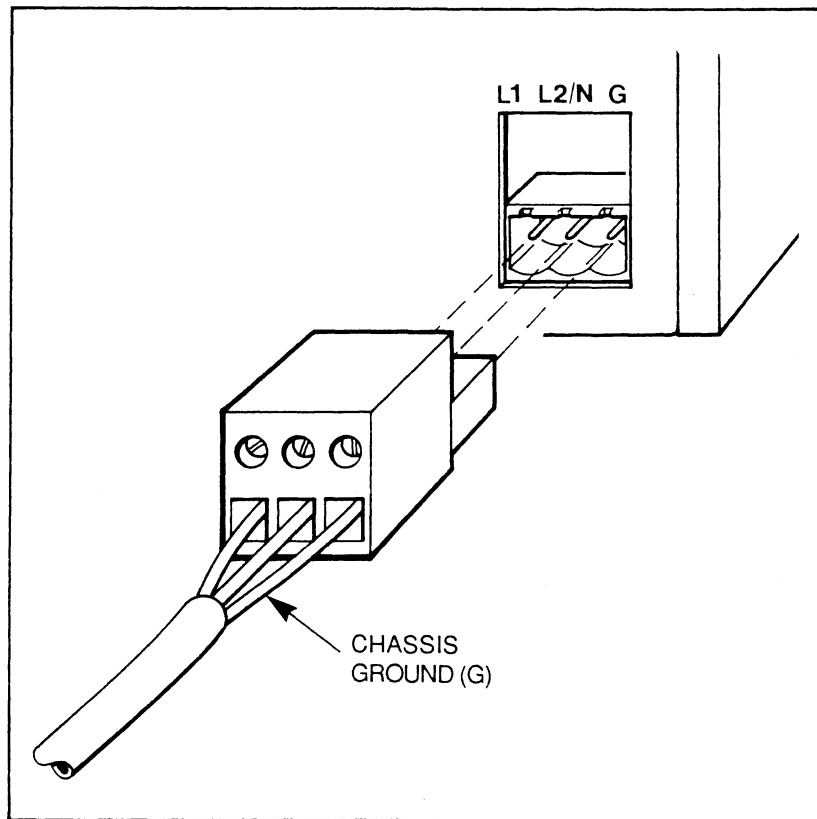

Figure 2-5. Connecting the Power Cable to the Workstation
10. Plug the power cable into the power receptacle, as shown in Figure 2.5 on the next page. (See Section 2.6.4 for instructions on creating a power cable.)
4. Insert the three wire ends of the power cable into the three holes of the block plug, as shown in Figure 2-5. The ground, L1 and L2/N wires should be inserted into the corresponding holes, as indicated in Figure 2-5 also. Be sure that no bare wire is exposed.